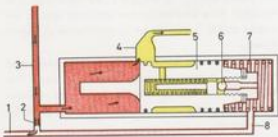

Fig. 6-48. Control valve, normal position
When the pump starts functioning, the valve (5, Fig. 6-48) maintains the valve pressed to the left of the spring (7). The oil supplied by the pump passes through the delivery channel (3) via the check valve (2) out into the delivery line (1) and from there to the steering housing. The space to the right of the
The check valve's (2) function is to ensure that the pressure on the left-hand side of the control valve piston is higher than that in the line and also to the right of the piston. When the spring pressure is overcome, the piston is, therefore, displaced to the right. And when the speed is sufficiently high in relation to the counterpressure, the piston has been displaced so much that the surplus oil can flow back to the inlet side of the pump, see Fig. 6-48. Since the pump should deliver a quantity smaller than the maximum capacity, this valve adjustment can be called normal.